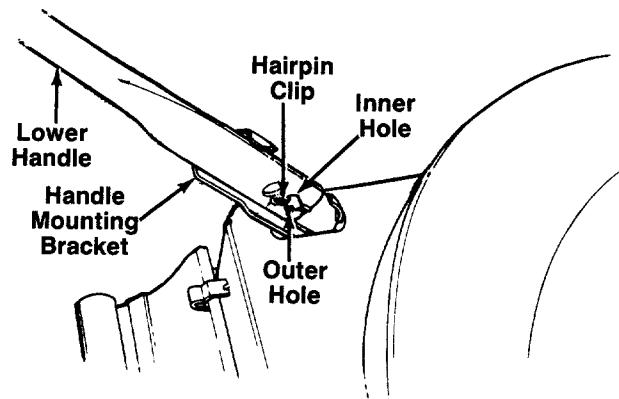

FIGURE 1.
1. Remove the hairpin clips from the holes in the handle brackets, which extend through the rear of the deck. See figure 1.
3. Using a pair of pliers, squeeze one leg of the lower handle against the handle mounting bracket. Insert the hairpin clip into the **inner** hole on the weld pin. See figure 1. Repeat on other side.